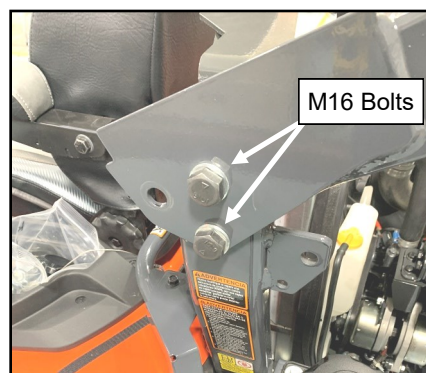

Fig. 3.6 (Tilt the ROPS)
- 3.6 See fig. 3.6. Remove the lower M16 bolts from the previous steps and tilt the ROPS back and re-use the bolts to pin in the tilted position. Be careful not to damage the engine hood if it is in the open position. The nuts on the lower bolts will be installed in a later step.